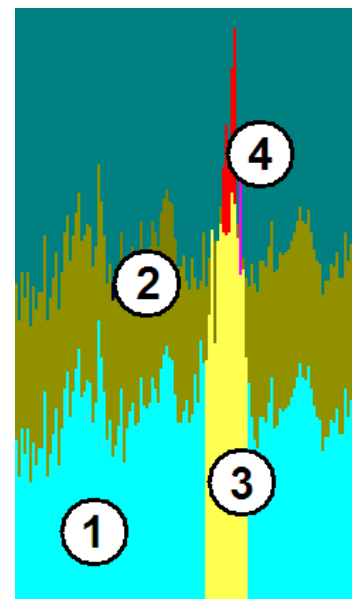

Fig. 32. Spectrum Colors in Compare Mode.
Figure 32 is taken from Fig. 31. In this illustration, the starting spectrum is displayed in color (1), the Compare spectrum is shown in color (2), the starting spectrum's ROIs are marked in color (3), and the portion of the starting spectrum that exceeds the Compare spectrum is indicated by color (4). These colors — called **Foreground**, **Compare**, **ROI**, and **Combine**, respectively — are chosen on the **Colors** dialog discussed in Section 6.6.9.6.